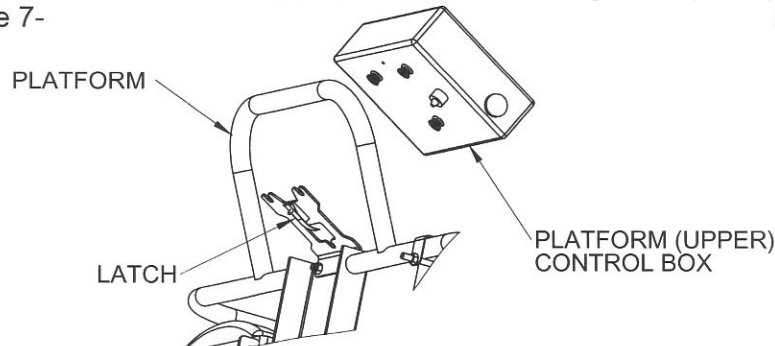

Figure 7-3. Remove Platform (Upper) Control Box.
- Remove the platform (upper) control box from the platform by releasing the **LATCH** on the back of the control box; take the platform (upper) control box to the ground (lower) control station. Refer to Figure 7-3.